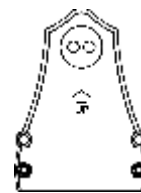
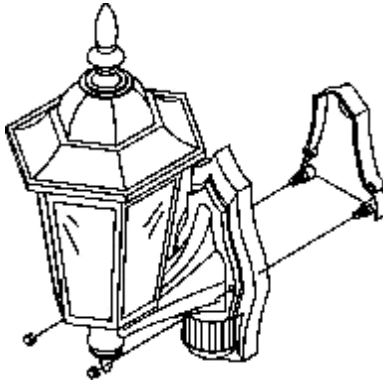

FIGURE 7
FIGURE 11
- (1) Switch off the power source.
- (2) Unscrew the back plate from the front cover (Figure 11). There is a "UP" mark shown on the back plate. Be sure to have "UP" mark shown upwardly when fixing the back plate onto the wall (FIGURE 7).
- (7) Place the front cover to the back plate and secure it with the two screws provided (FIGURE 11).